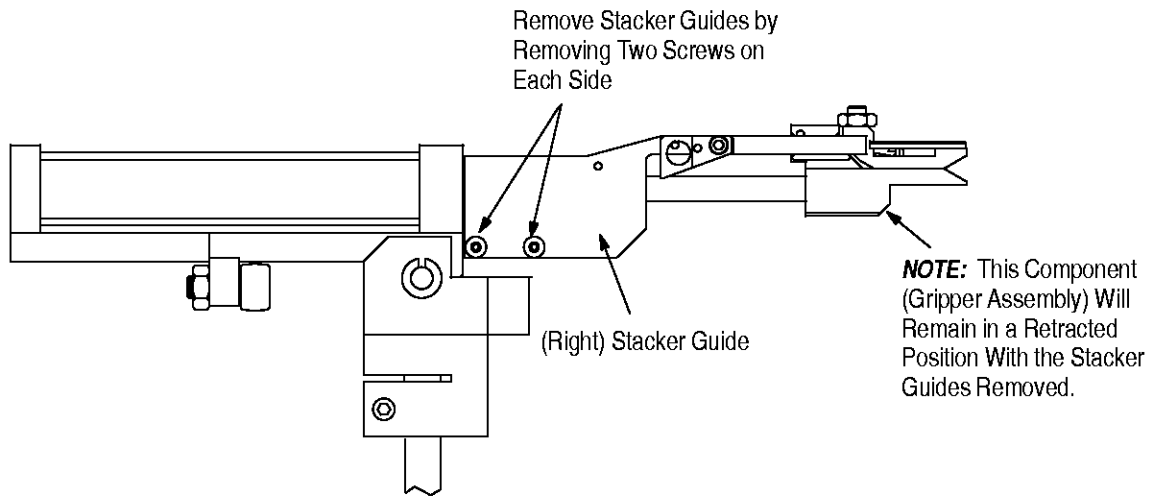

Figure 3
2. Refer to Figure 3, which shows the existing components on the eject assembly, and carefully remove the right and left stacker guides. Place them in a suitable container.